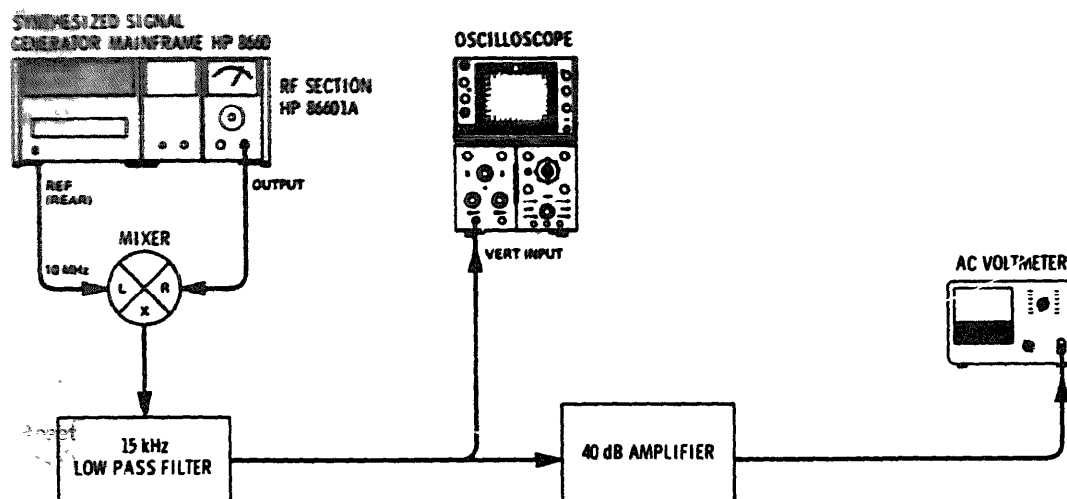

Figure 4-7. Signal-to-Phase Noise Test Setup
1. **Connect** the equipment as shown in Figure 4-7.